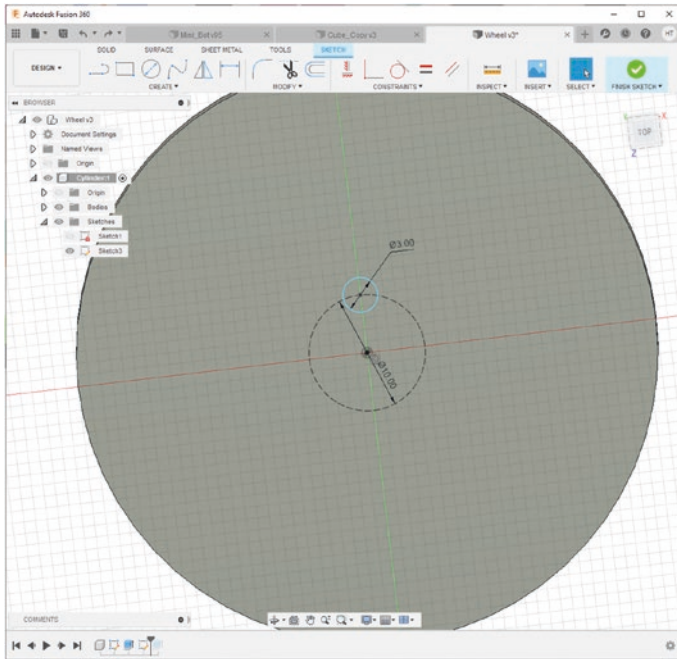

Figure 8-13. Create a 3mm circle on the perimeter of the 10mm circle
- 5. Draw a 3mm circle on the perimeter of the 10mm circle. See Figure 8-13.